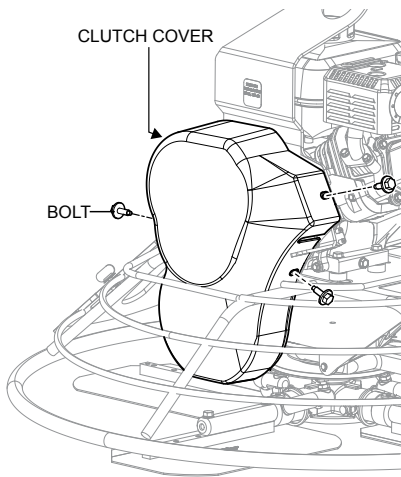

**Figure 14. Handlebar Clutch Cable**
2. Check that the clutch cable (Figure 14) is attached to the handlebar cable anchor.